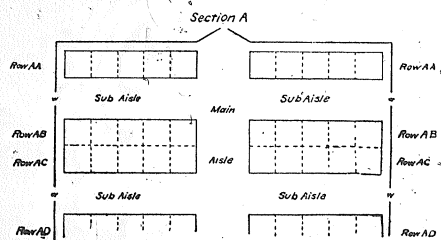

FIGURE 3
4.—*Row*: A straight line of bins of units. A row is generally limited on the ends by the limits of the section, and on the sides by an aisle or an adjoining row or the border of the section. Rows may be cut at right angles by aisles. (see Figure 3).